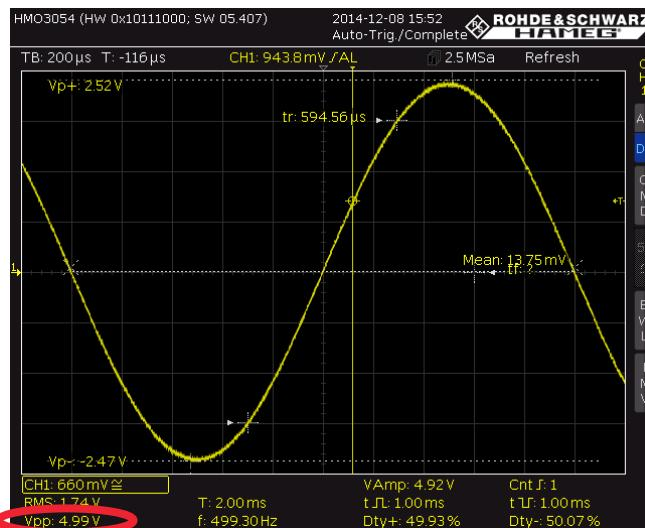

Fig. 2-39: Display of all relevant signal values.
- Press the *QUICK View* key. All relevant parameters of the input signal u_{in} are displayed (Fig. 2-39), $U_{in} = V_{pp} = 4.99 \text{ V}$. (Note: You can also use the *CH2* key to switch to the output voltage U_{out} .)